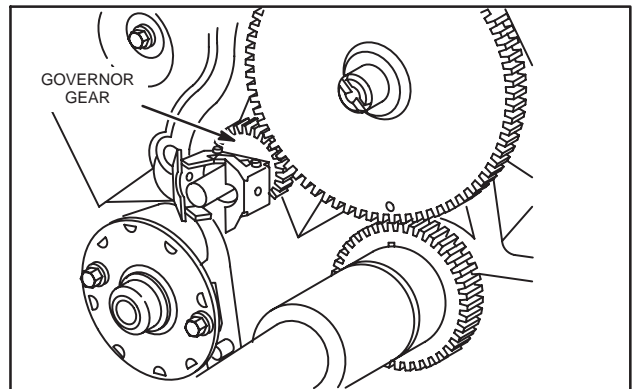

Fig. 8 – Remove Sump
3. Remove sump and discard gasket, Fig. 8.